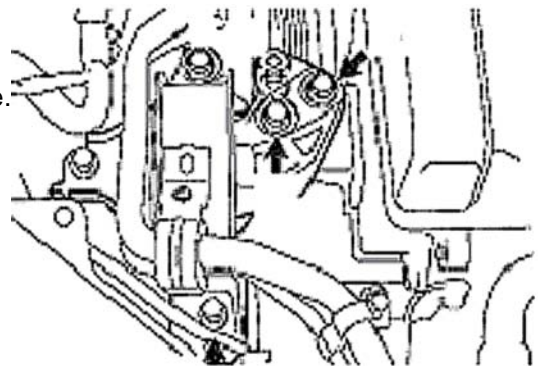

Figure 67
33. Install right engine mounting bracket. See (Figure 67)